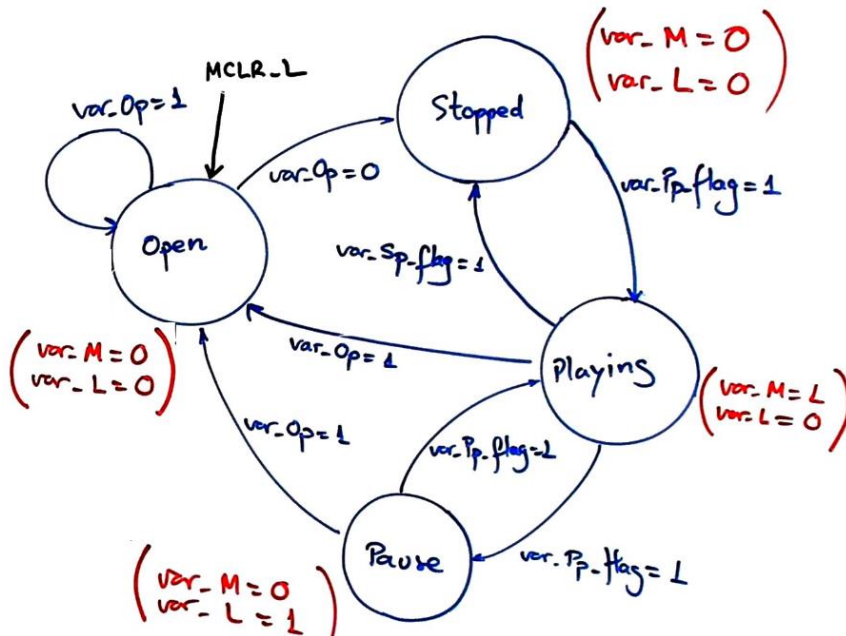

Fig. 5. CD player FSM state diagram.
1. Draw and explain the hardware-software diagram if we propose the FSM state diagram in Fig. 5 for running the application. Explain the difference between variables and flag variables.